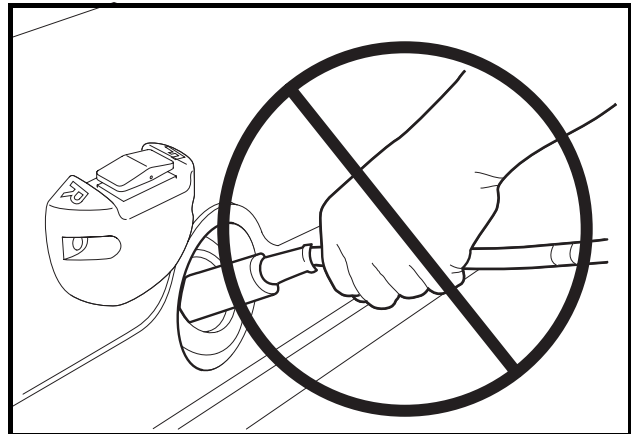

Figure 28 Incorrect Removal of Charger DC Plug
- Do not pull on the DC cord (Figure 28, Page 40). Do not twist, rock or bend the plug. To disconnect the charger plug from the vehicle receptacle, grasp the plug by the handle and pull the plug straight out of the receptacle.